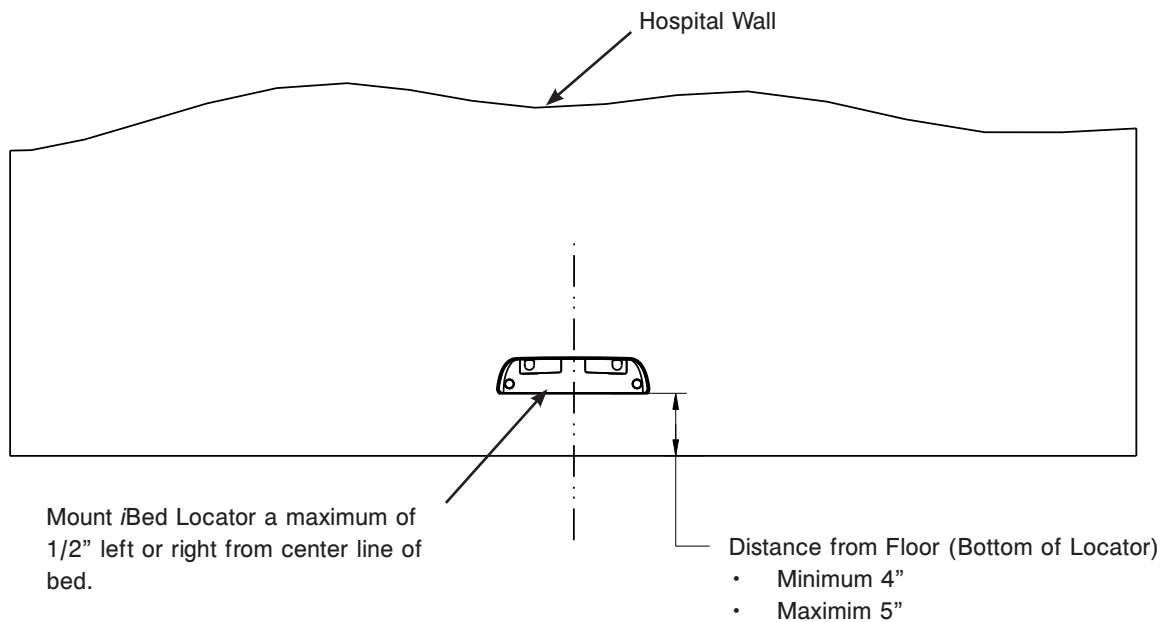
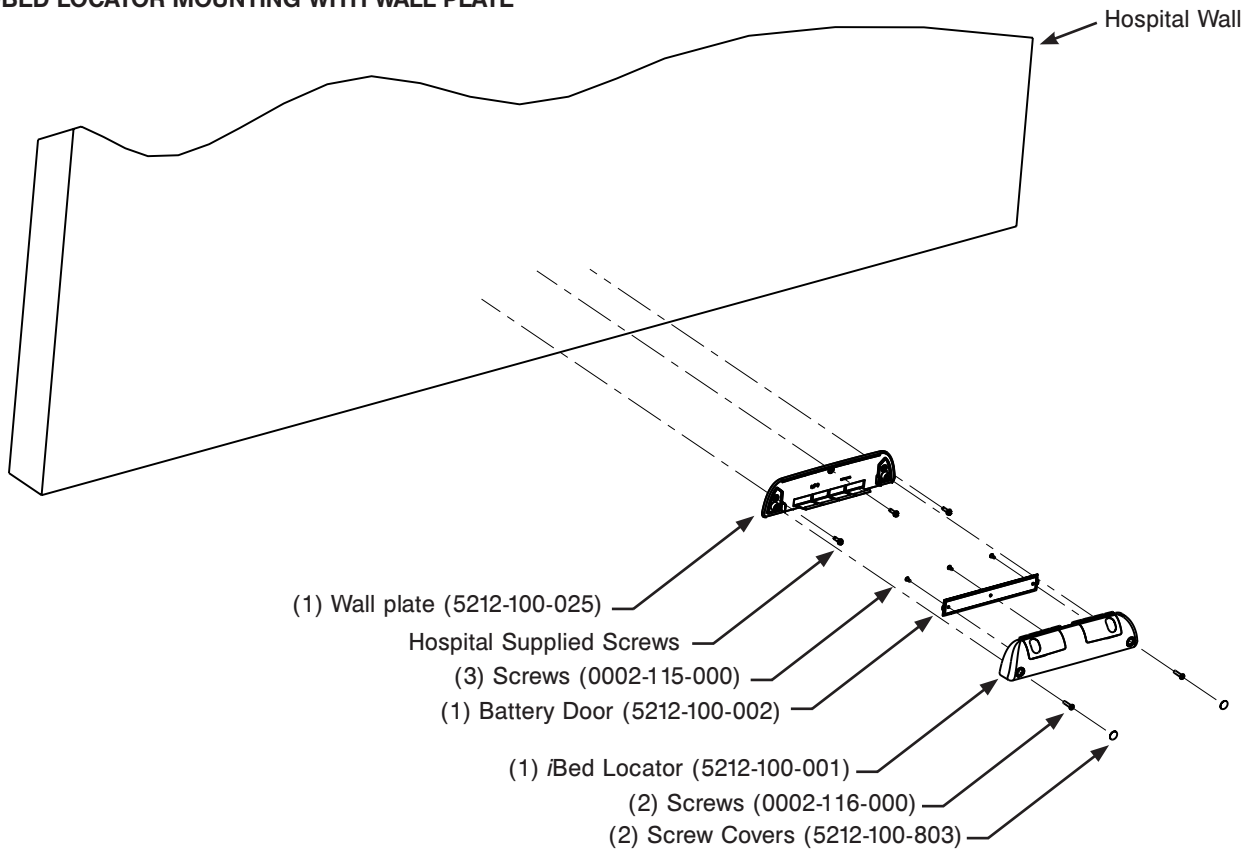
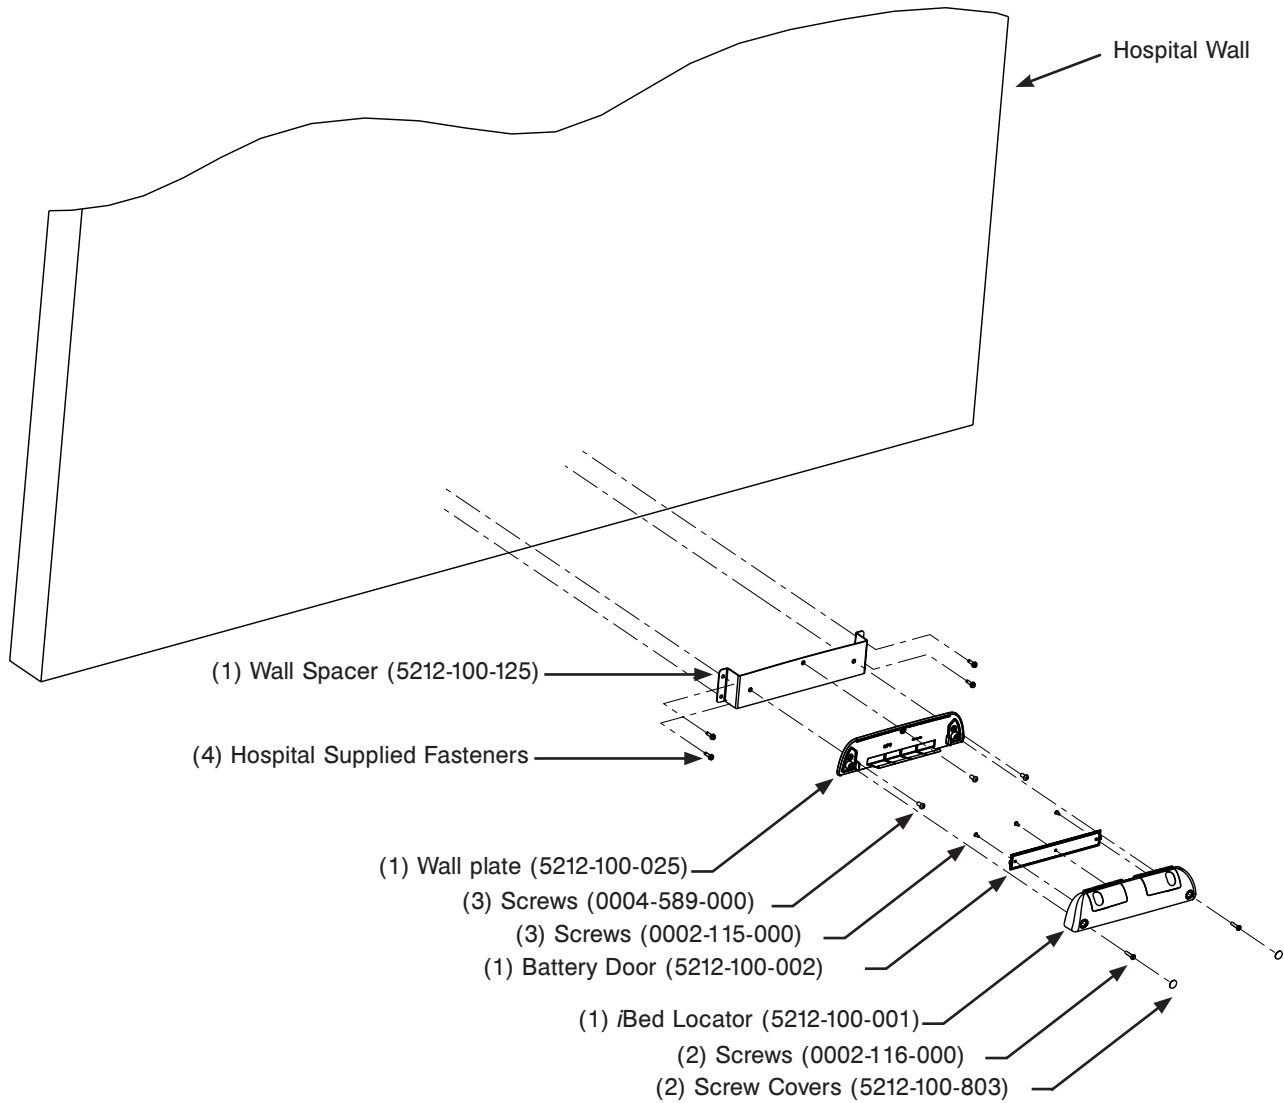

Figure 2
Figure 3
Figure 4
3. Using a tape measure and a pencil, mark the center of the wall 4" to 5" off of the floor for reference as shown in Figure 2.
5. Using the iBed Locator wall plate (5212-100-025 see Figure 3) or optional wall spacer (5212-100-125 see Figure 4) as your mounting hole template, position it on the wall ensuring the bottom of the wall plate or wall spacer is 4" to 5" off of the floor.
6. Using a pencil, mark the bottom of the wall plate or wall spacer. Center the wall plate or wall spacer on the mark that was made in step one (see Figure 2).
8. Using a pencil, mark the three (3) screw holes in the wall plate or if using the optional wall spacer, mark the four (4) screw holes.
11. Install three (3) AA alkaline batteries (not supplied) into the battery compartment.
12. Using a Phillips screwdriver, secure the battery door to the iBed Locator with the three (3) supplied screws (0002-115-000) (see Figure 3 or 4).
a. Using a T27 Torx driver, secure the wall plate to the wall spacer with the supplied three (3) screws (0004-589-000) (see Figure 4).
15. Using a Phillips screwdriver, secure the iBed Locator to the wall plate with the two (2) supplied screws (0002-116-000) (see Figure 3 or 4).
16. Install the two (2) screw covers (5212-100-803) over the two screws that were installed in step 12 (see Figure 3 or 4).